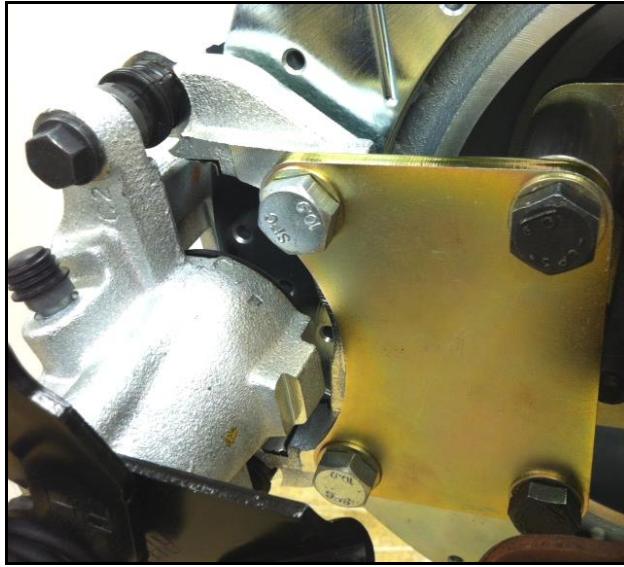

Figure 5: Inboard view of assembled components (driver's side)
13. Install the correct side caliper onto the intermediate bracket using the supplied M12-1.75 x 25mm bolts and washers. Ensure that the bleed screw points upward on the caliper. Torque each bolt to 80 ft-lbs. See Figure 5 and 6 for reference.